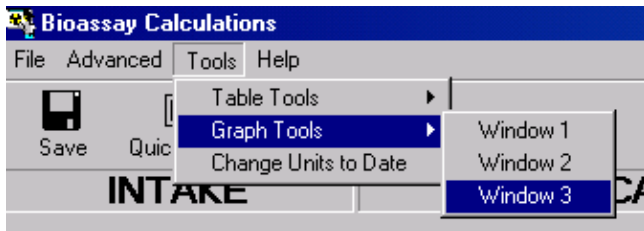

Figure 4.9. Drop-down list of **Bioassay Quantity** windows for using **Graph Tools**.
- **Graph Tools** - Enable you to open the Graph Tool (graph editing facility) to specify how you want a graph to be displayed (ranges of the x- and y-axes, linear or logarithmic plots) for any **one** of the three **Bioassay Quantity** windows (see Figure 4.9).